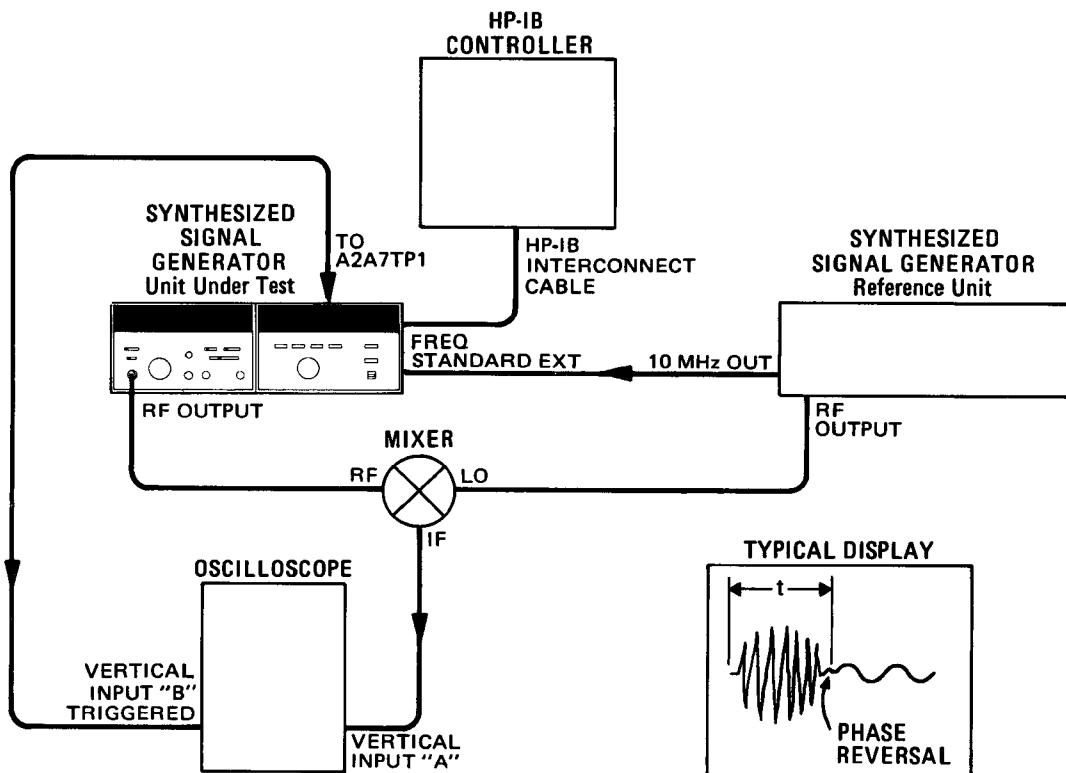

Figure 4-13. Frequency Switching Time Test Setup
11. Connect the remaining equipment as shown in Figure 4-13. Set front panel EXT ALC CAL adjustment fully CW.
14. Measure the switching time by observing the signal on the oscilloscope display. (The Frequency Execute program code triggers the oscilloscope's horizontal sweep. Therefore, the timing begins at the display's left graticule. The timing ends at the last phase reversal as the IF signal settles into a steady frequency. Refer to Figure 4-13. This should occur in less than 15 ms. \_\_\_\_\_ 15 ms